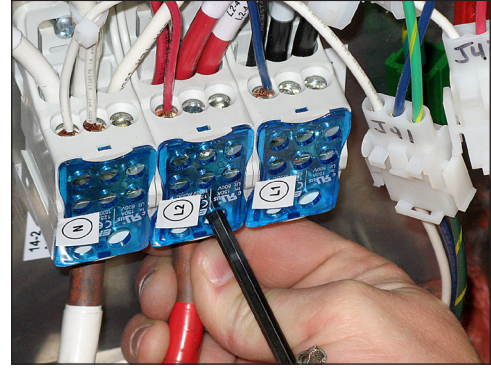

Figure 32: Connect Power Lines
8. Connect power line 2 (L2) to Line 2 of the tap and use a 15/64" hex head wrench to tighten to 120 in-lbs, as shown in **Figure 32**.